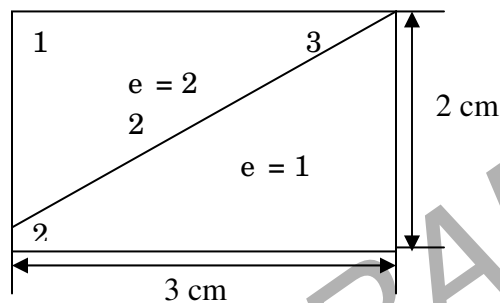

Figure: 1
- Find the strain – nodal displacement matrices B^e for the elements shown in figure: 1. Use local numbers given at the corners. [16]